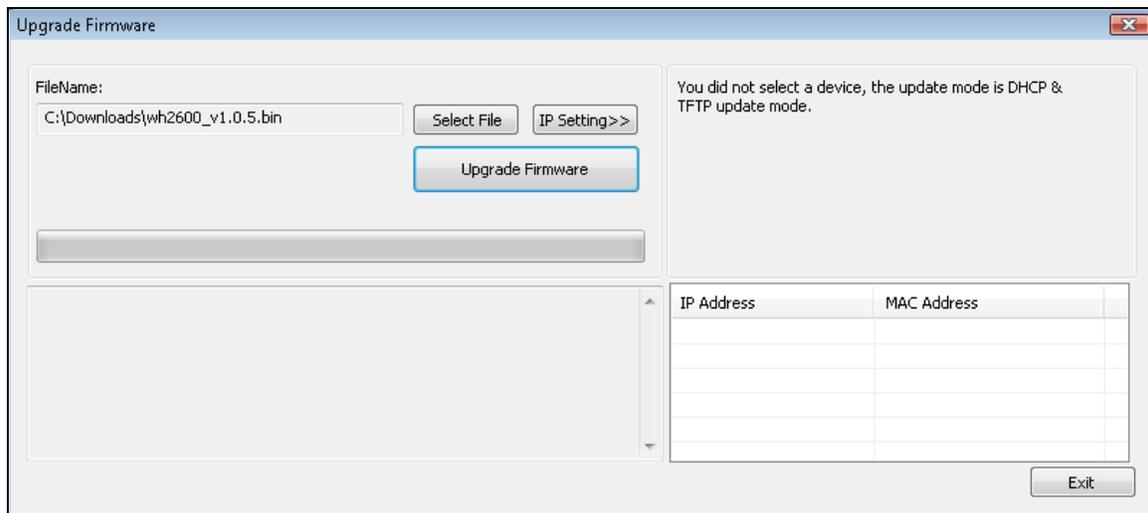
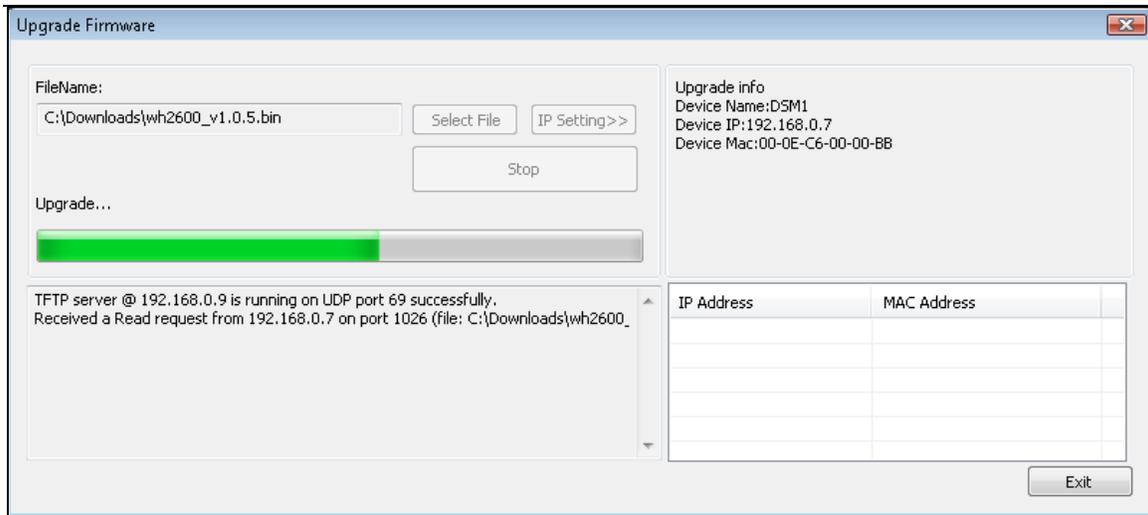

Figure 31
Figure 32
4. Reference Figure 31. Select the **Select File** button, and browse to the location of the file you downloaded in Step 1.
5. Select the **Upgrade Firmware** button. Reference Figure 32. The dialog box will display **Received a Read Request** from the ObserverIP module. A green progress bar will provide you with the upgrade status.
1. Reference Figure 31. Select the **Choose File** button, and browse to the location of the file you downloaded in Step 1.
2. Select the **Update** button. Reference Figure 32. The dialog box will display **Ready to Update** from the ObserverIP module. A progress bar will provide you with the upgrade status.
Only the Power, Link and ACT lights are lit and the ObserverIP module does not communicate to the server.	<p>The firmware will need to be reloaded.</p> <ol style="list-style-type: none"> 1. Download the latest firmware here: http://www.AmbientWeather.com/observerip.html 2. Power down the ObserverIP module but leave connected to your router. 3. Launch the IP Tools application as referenced in Section 3.4.1. Since the module is powered down, you will not be able to locate it on your network, but proceed anyway. 4. Select the Upgrade button. 5. Reference Figure 31. Select the Select File button, and browse to the location of the file you downloaded in Step 1. 6. Select the Upgrade Firmware button. 7. Plug in the ObserverIP module. The software will locate the device on your network and begin the update. <p>Reference Figure 32. The dialog box will display Received a Read Request from the ObserverIP module. A green progress bar will provide you with the upgrade status.</p> <p>DO NOT OPERATE THE MOUSE OR KEYBOARD WHEN UPGRADING to prevent interruption of the upgrade.</p> <ol style="list-style-type: none"> 5. Once the firmware upgrade is complete, the dialog box will display